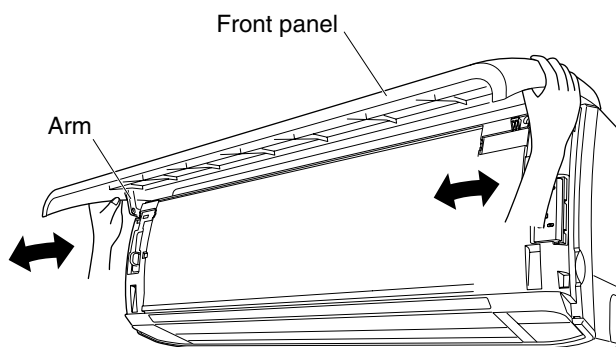

Fig. 9
- (1) Open the front panel until it is nearly horizontal, grasp the sections near the front panel arms on both sides, and then pull forward to remove the front panel. (Fig. 9)
- (2) Remove the 3 screws from the frame.